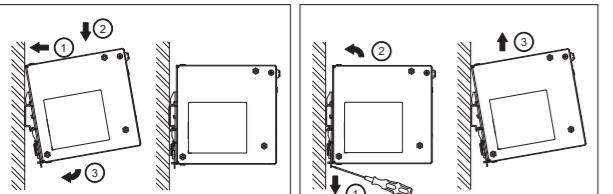

Figure 2
#### 3. Mounting and dismantling (Fig. 2, Fig. 3)
1. Tilt the unit slightly upwards and put it onto the DIN rail. Snap on the DIN rail as shown in Fig. 2.